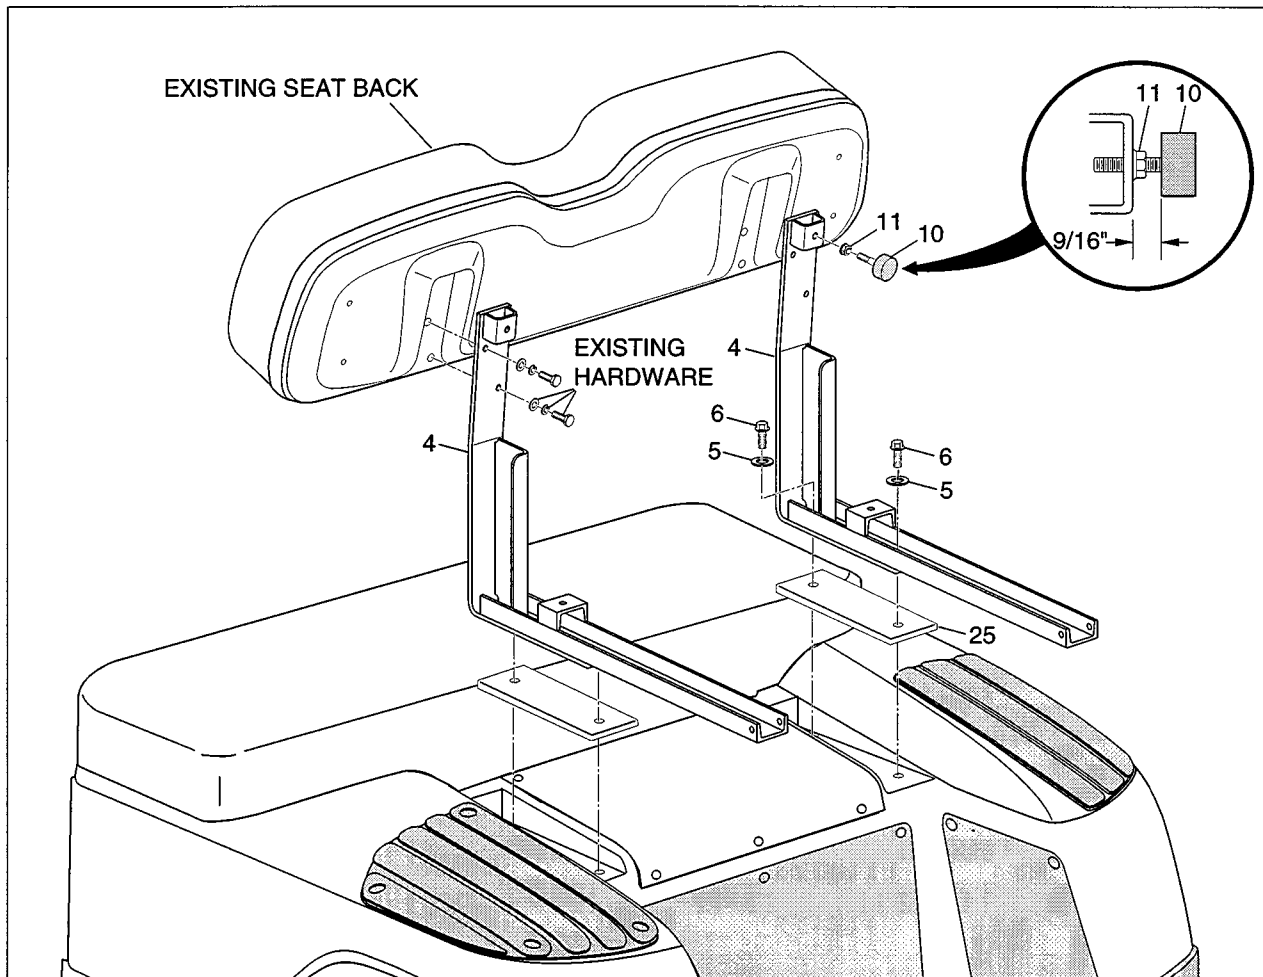

Fig. 3
B. INSTALLING SEAT BACK SUPPORT (Refer to Fig. 3)
2. Install the new seat back supports (item 4) to the frame using washers (item 5) and bolts (item 6). Finger tighten hardware to allow for adjustment.
4. Install rubber bumpers (item 10) on vertical part of seat support bracket using one lock nut (item 11) (per bumper) as shown in Fig. 3. Tighten to dimension specified.
5. Tighten bolts (item 6) to 21 - 25 ft. lbs. torque.
2. Secure the valance panel to the vertical support brackets using two rivets (item 17) in each bracket.
G. INSTALLING SEAT ASSEMBLY (Refer to Fig. 3)
1. Insert the nylon bushings (item 21) into the pivot brackets on the seat assembly (item 22, 4 places).